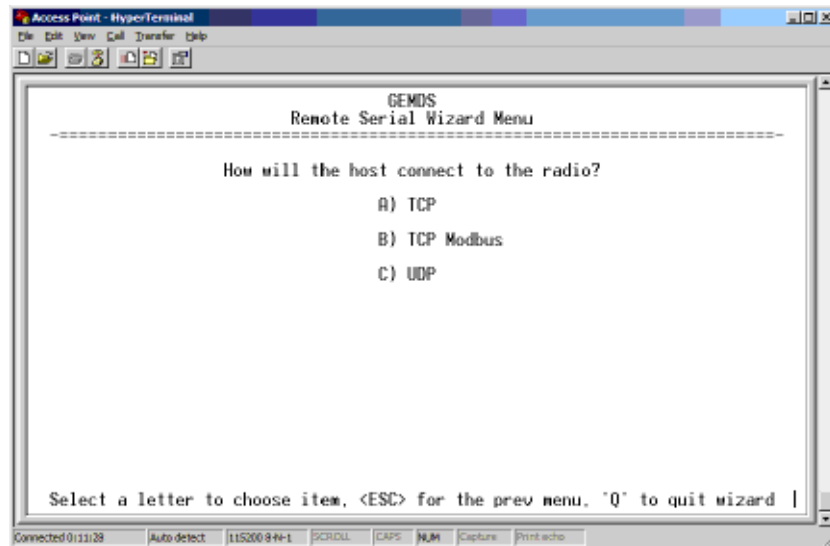

Figure 6-12. Remote Serial Wizard Menu
2. Select **TCP Modbus** from the Wizard menu (Figure 6-12).